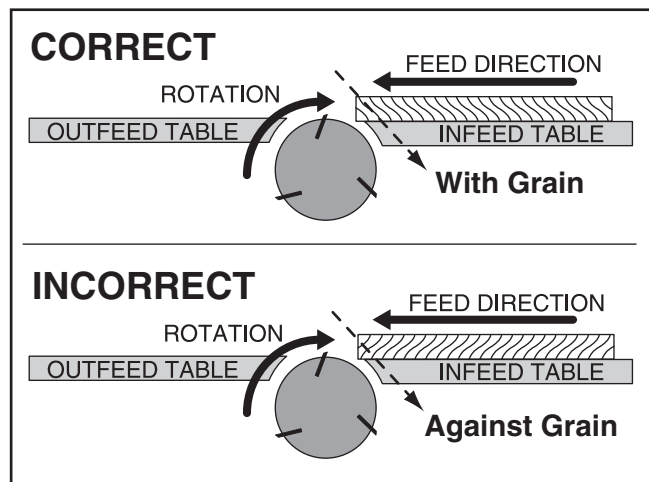

Figure 24. Correct and incorrect grain alignment with cutterhead.
- **Jointing and surface planing with the grain produces a better finish and is safer for the operator.** Cutting with the grain is described as feeding the stock on the jointer so the grain points down and toward you as viewed on the edge of the stock (**Figure 24**).